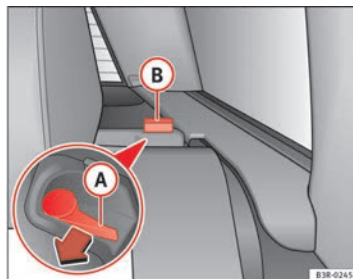

Fig. 127 Backrest release lever
- Press the release lever **A** ⇒ fig. 127 in the direction indicated by the arrow.